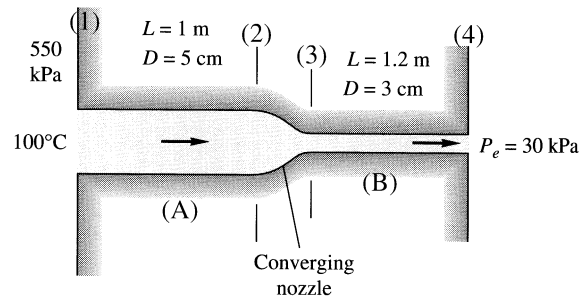

Fig. P9.102
**9.102** Air at 550 kPa and 100°C enters a smooth 1-m-long pipe and then passes through a second smooth pipe to a 30-kPa reservoir, as in Fig. P9.102. Using the Moody chart to compute  $f$ , estimate the mass flow through this system. Is the flow choked?